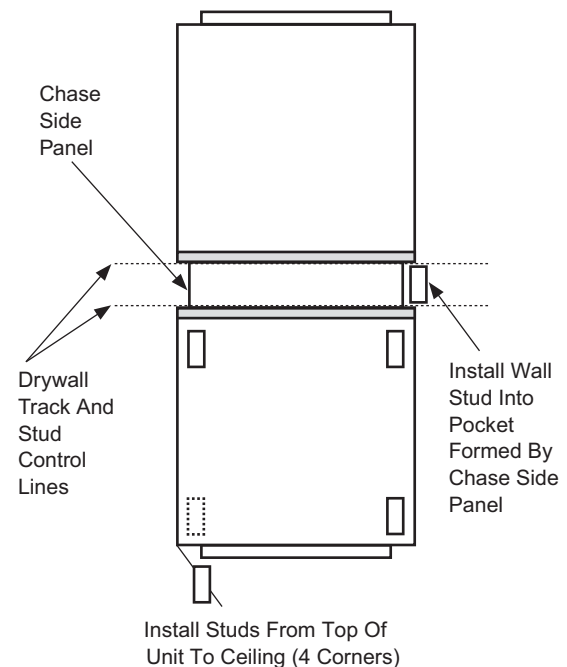

Fig. 16 — 42SJA/SJB Wall Board Installation
- a. Lay out the control lines for the drywall track and studs in the floor and ceiling (see Fig. 16).
- d. Position the vertical studs and fasten into each of the stud pockets formed into the chase side panels (see Fig. 16).